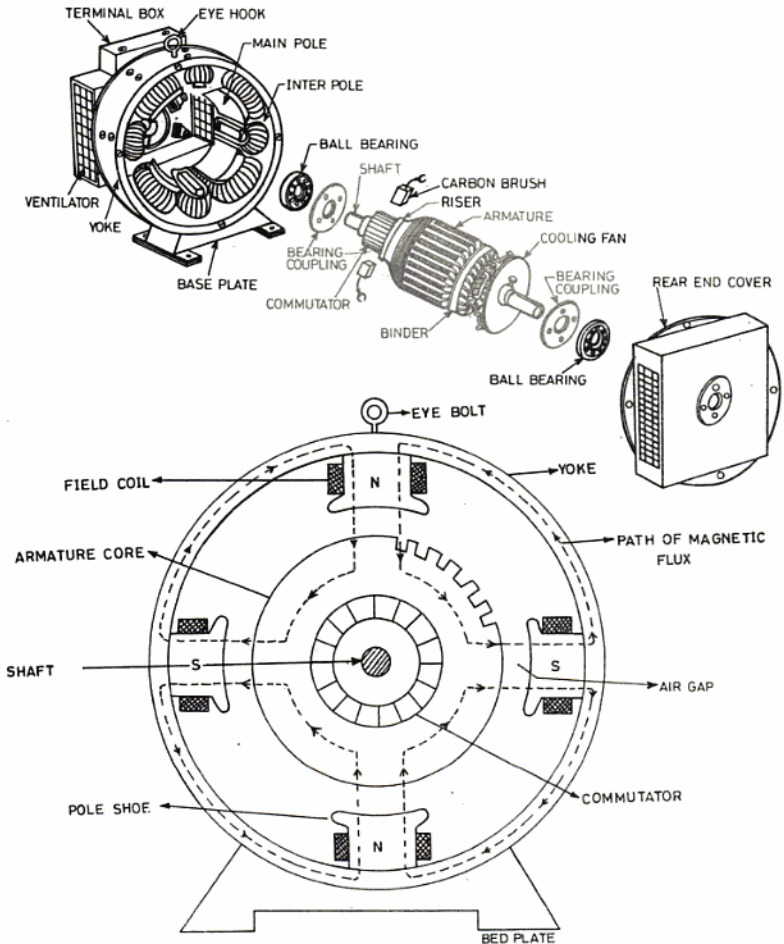

Fig. 7.2 Parts of generator
The essential parts of a dc generator (or motor) are discussed below (Fig 7.2).
**Field Pole** In small dc machines the poles are cast with the body or the yoke, but in big machines the pole shoes are screwed with the yoke. They are made of cast steel or cast iron as it offers low reluctance to the magnetic lines. Wound coils are slipped over the pole shoes. All the field coils (four or six as the case may be) are connected in series in such a way as to produce opposite polarities at the adjacent poles. The ends of the field coils are brought out to the terminal box of the machine. In Fig. 7.2, the arrangement of a four-pole system and the path of the magnetic lines are shown. The function of these poles is to support the field coils and to produce magnetic field in the machine.